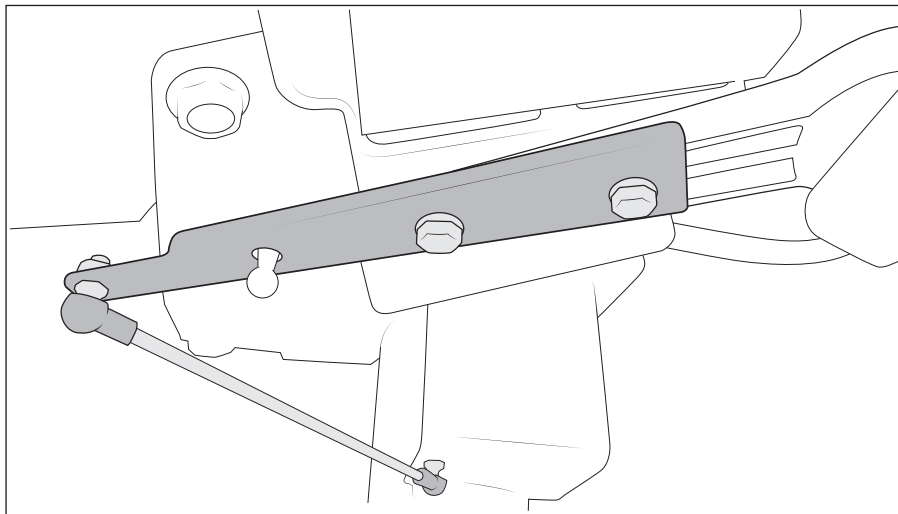

Figure 18
11. AIR RIDE ONLY — Reinstall sensor arms (fig. 18).